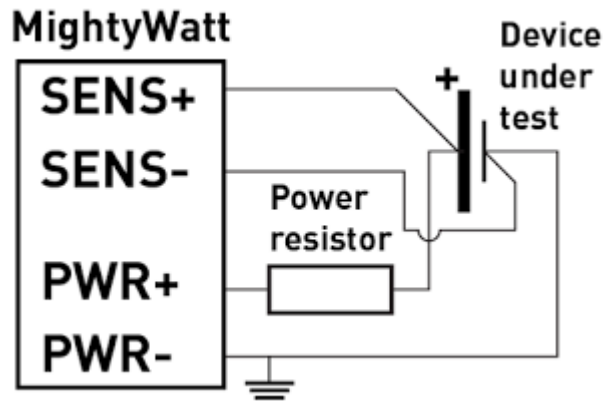

Figure 1: Connection of power resistor to MightyWatt and DUT.
3. Connect DUT negative lead to the PWR- terminal on MightyWatt. In grounded DUTs, always connect the power resistor to the positive terminal to keep the ground connection intact (Figure 1).